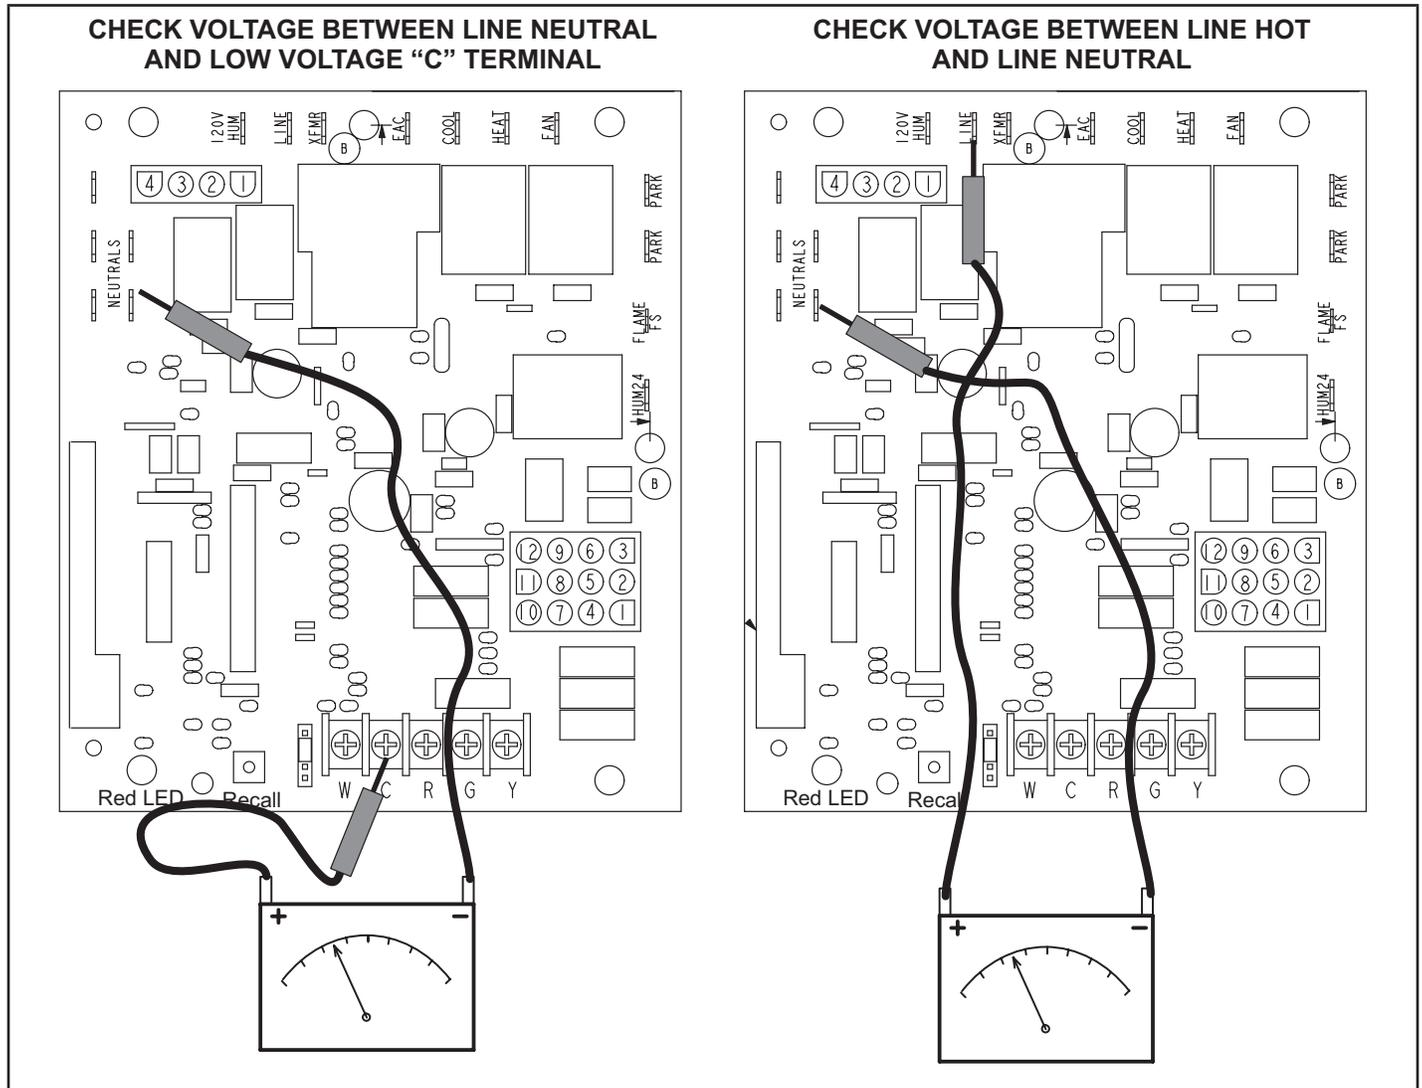

FIGURE 54
- 1 - Measure the AC voltage between Line Neutral (spade terminals) and "C" terminal (low voltage terminal block) on the integrated control. See FIGURE 54. A wide variation in the voltage between Line Neutral and "C" as a function of load indicates a poor or partial ground. Compare the readings to the table below. If the readings exceed the maximum shown in TABLE 21, make repairs before operating the furnace
- 2 - In addition, measure the AC voltage from Line Hot to Line Neutral (spade terminals) on the integrated control. See FIGURE 54. This voltage should be in the range of 97 to 132 Vac.
Note - FIGURE 54 is a typical ignition control illustration.